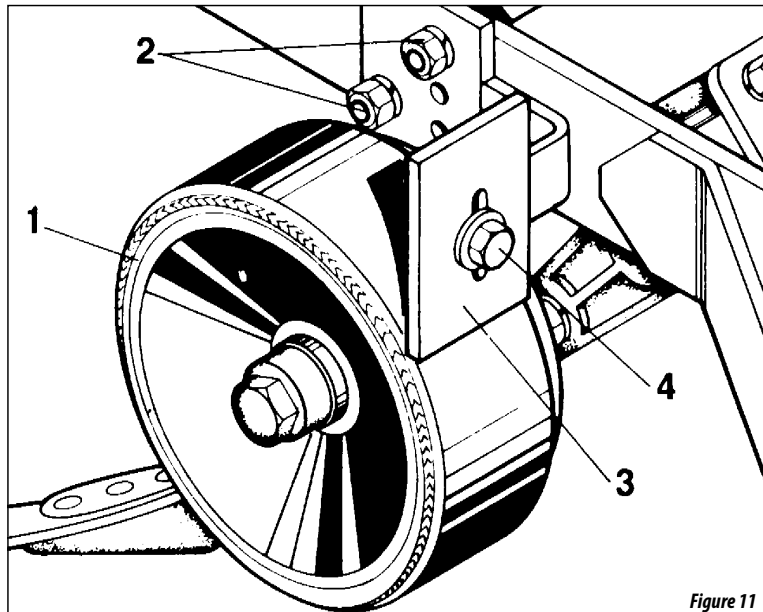

Figure 11
- 01 - The subsoiler depth it's regulated through the wheels item 1 Figure 11, that limited the penetration of all shanks by uniform way.
- 02 - For this regulation, loose the nuts item 2 and displace the wheel till the measure desired. Retight the nuts.
- 03 - Also regulate the scrapers item 3, loosening the nuts item 4 and replace that till stay with a looseness of 10 to 20 mm from wheel.